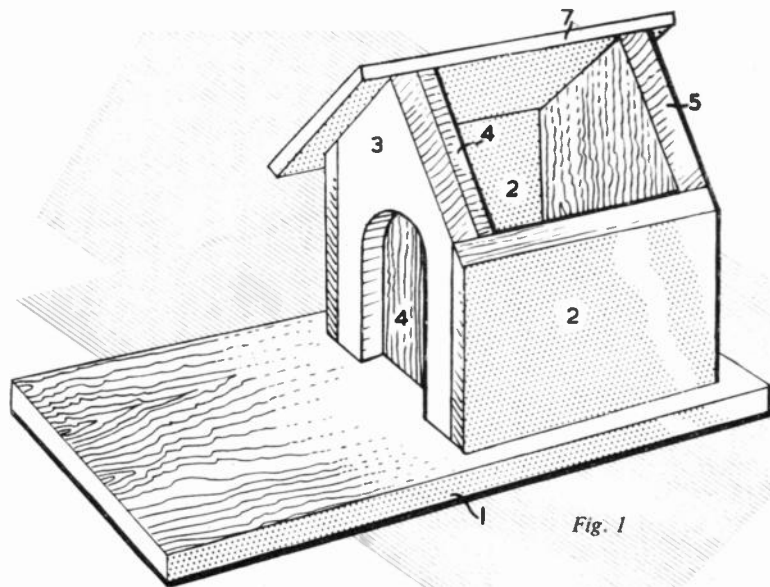

Fig. 1
the entrance as seen in Fig. 1. Glue the sides (2) and remaining end (5) in position, noting the direction of the chamfer on pieces 2 to allow for the